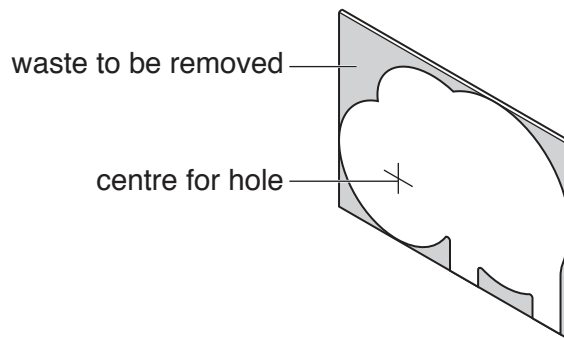

Fig. 7
- (b) Fig. 7 shows a template of the shape glued to a sheet of 5 mm thick manufactured board. The centre for a hole to be drilled for the clock mechanism is shown.